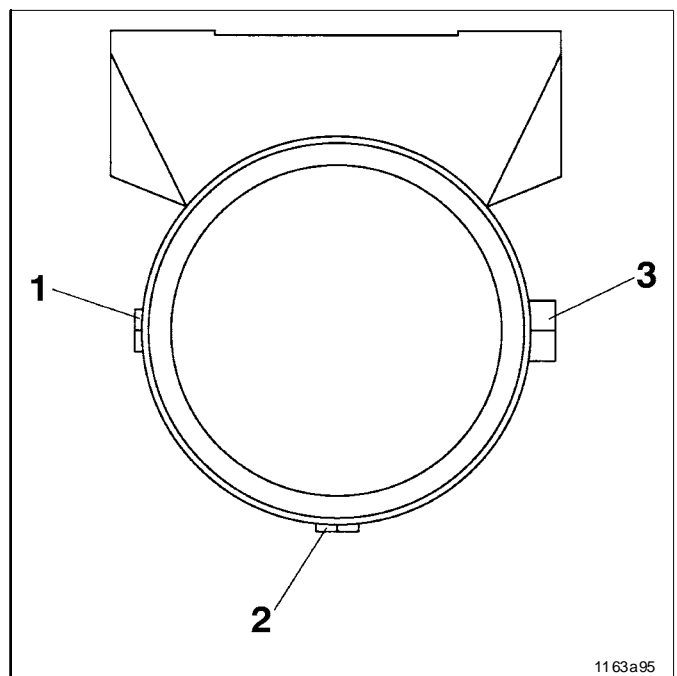

Fig. 3-2 Arrangement of the pump elements
- If several pump elements are to be installed, the installation arrangement shown in fig. 3-2 must be adhered to.